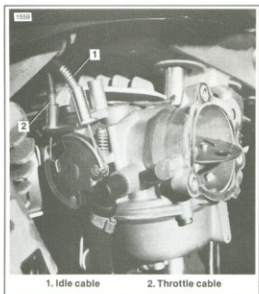

Figure 2-91. Cable Installation
9. See Figure 2-91. Install the idle cable (1) and spring into the longer of the two support sleeves on the carburetor. The idle cable has a 1/4"-20 threaded adjuster at the throttle end.